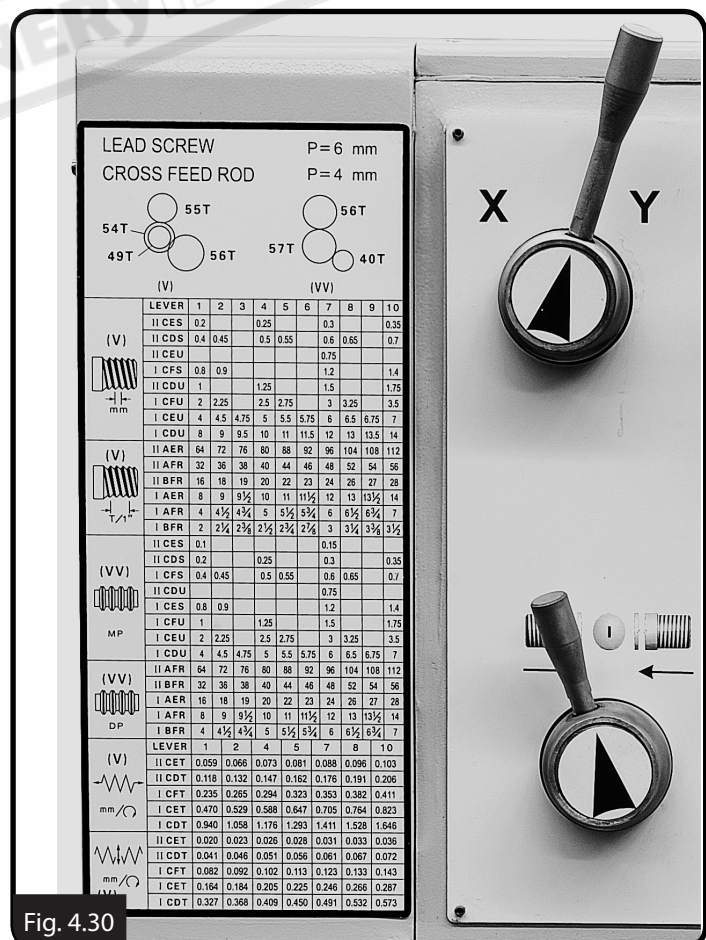

Fig. 4.30
14. Close the end cover and refer to the Threading Chart for how to shift the lathe to the appropriate feed or thread pitch. (Fig. 4.30)